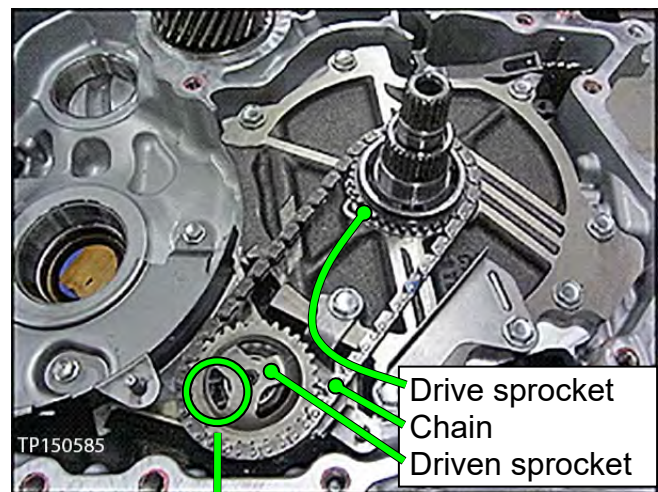

Figure 39
2. While spreading out the snap ring, remove as an assembly the driven and drive sprockets and oil pump chain (chain). See Figures 39 and 41.